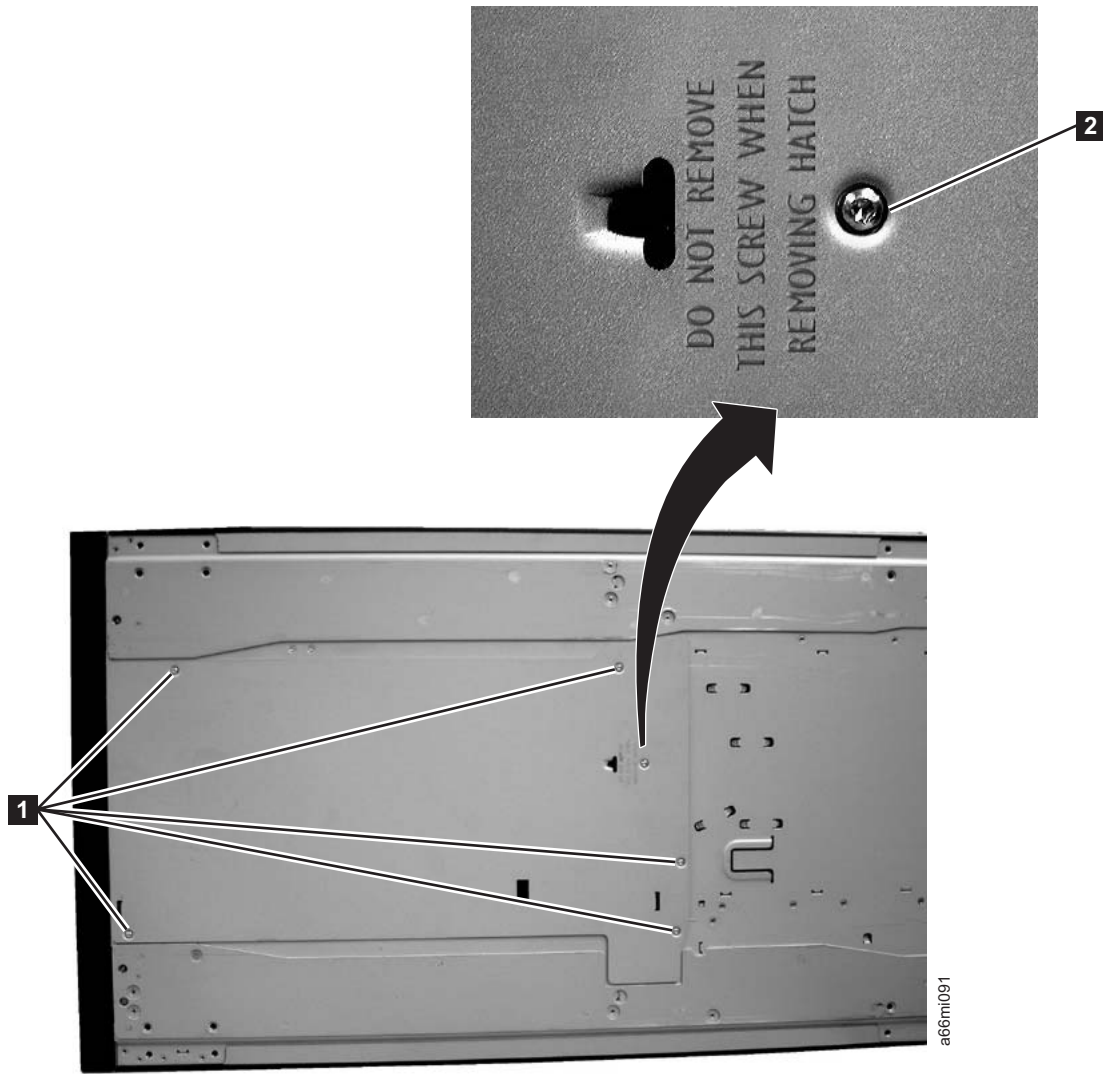

Figure 4-9. Bottom cover of the 5U control module
2. Turn the 5U control module on its side and remove the 5 - T10 Torx bottom cover screws (**1** in Figure 4-9 on page 4-9).
Important: DO NOT loosen or remove the screw that holds the home sensor (**2** in Figure 4-9 on page 4-9). This screw has the same T10 Torx head as the cover screws, but it is longer and has a coarse thread for screwing into the plastic home sensor.